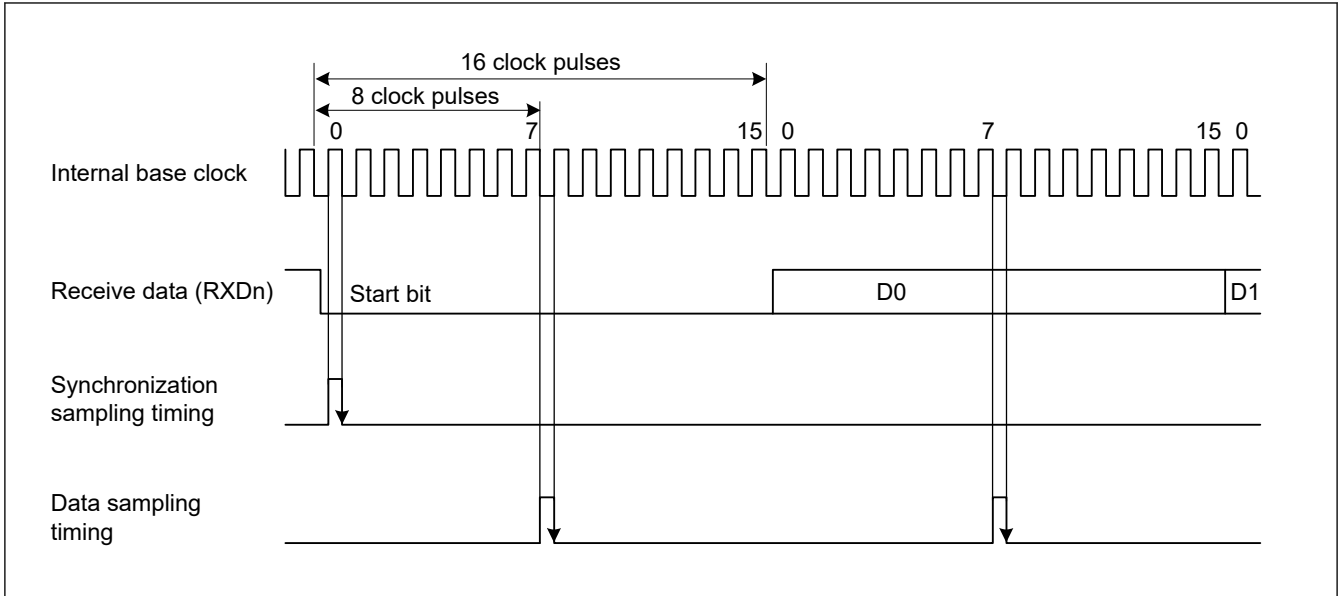

Figure 25.3 Receive data sampling timing in asynchronous mode
Because receive data is sampled on the rising edge of the 8th pulse^{*1} of the base clock, data is latched at the middle of each bit, as shown in Figure 25.3 The reception margin in asynchronous mode is determined by the following formula (1):